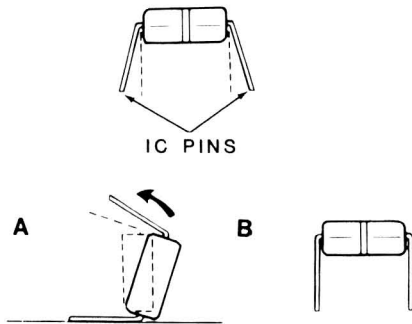

Figure 20-2. Rolling the IC to Bend the Pins
5. The pins on the IC may be bent out at an angle so they do not line up with the holes in the IC socket. The pins must be bent into alignment; incorrect installation may damage the IC pins or the socket, causing intermittent and unreliable contact. To bend the pins of an IC, hold the IC in one hand and place your other hand on your work surface before you touch the IC to your work surface. This will equalize the static electricity between the work surface and the IC. Next, lay the IC on its side, as shown in Figure 20-2, and roll it very carefully toward the pins to bend them in line. Then turn the IC over and bend the pins on the other side in the same manner.